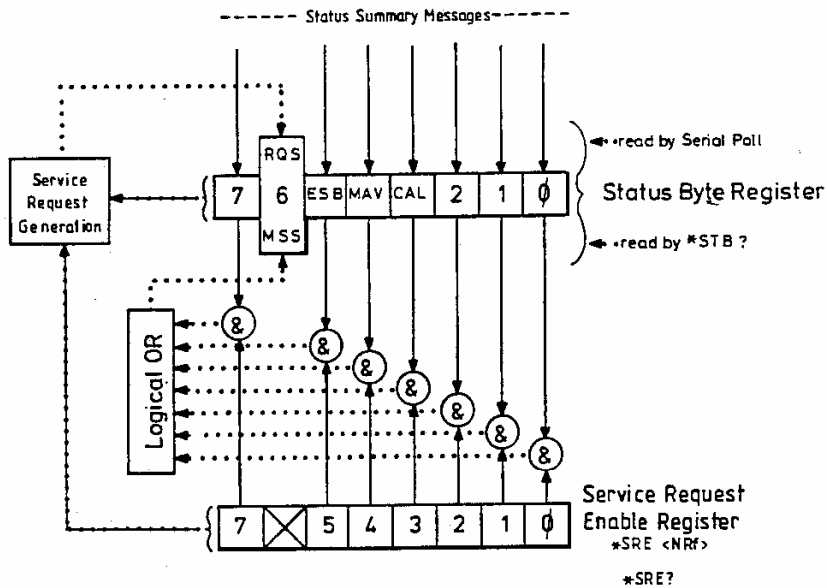

Fig. 9.1 Status Byte Register
9.4.1 The Status Byte Register (SBR) is shown in Fig 9.1.
9.4.2 The Service Request Enable Register (SRE) is a mask, determining the conditions in which the SBR will generate a service request. It is ANDed bitwise with the SBR and, if the result is not zero, then Bit 6 of the SBR is set (see Fig 9.1).